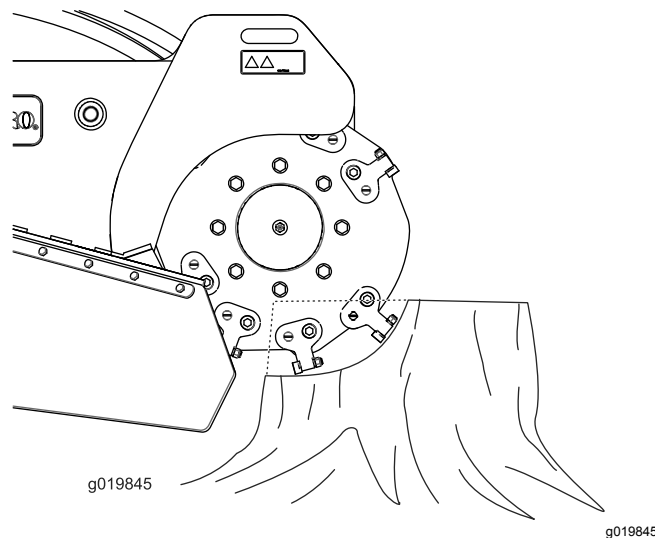

Figure 20
2. Use the grinder control lever and the traction control to position the grinder to the side of the front of the stump, about 2 cm (1 inch) below the surface (Figure 20).
4. Use the grinder control lever to swing the grinder slowly across the face of the stump, cutting away a swath of chips (Figure 20).